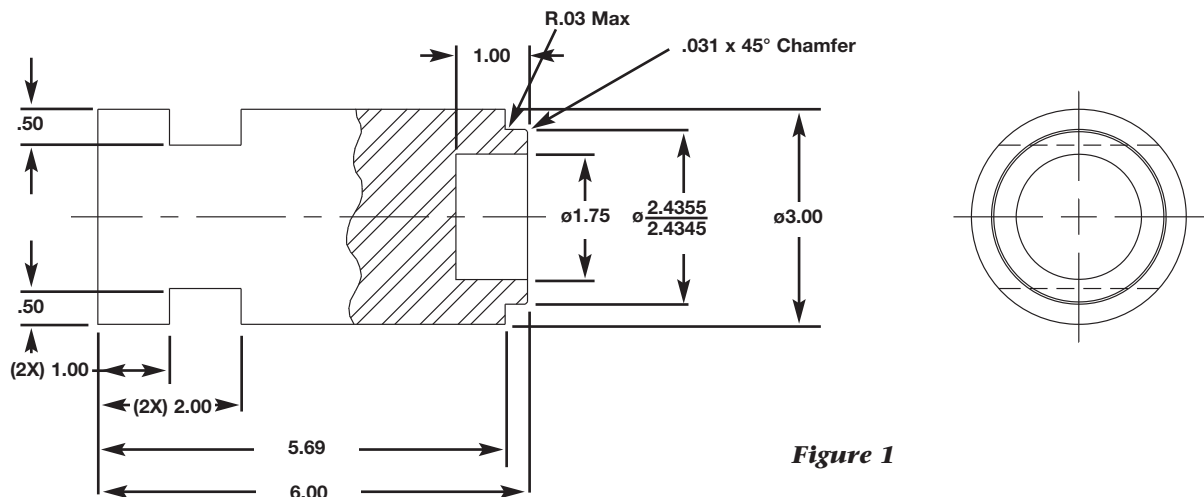
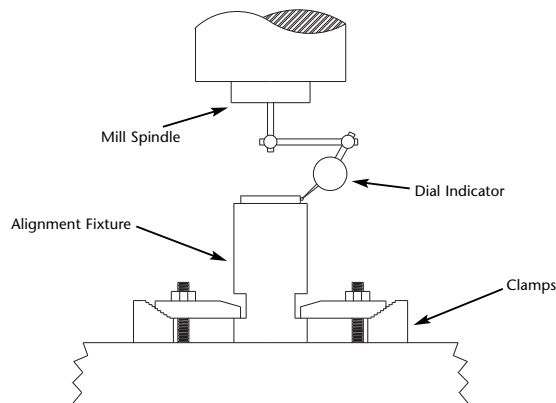

Figure 1
Figure 2
3. Toe clamp the locating fixture (see Figure 1) to the mill table. Using the tenth reading indicator, align the fixture pilot diameter within .0005" TIR to the mill spindle (see Figure 2).